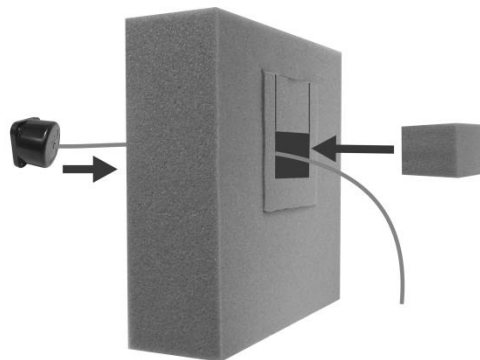

Figure 2. Placement of DM5 Microphone and foam in the foam enclosure
- Remove the small portion of the provided foam microphone enclosure, resulting in the two pieces of foam shown in Figure 2.
- Insert the DM5 Microphone cable through the hole in the foam enclosure, and place the microphone into the hole as shown in Figure 2.
- Insert the removed piece of foam back into the hole in the foam enclosure as shown in Figure 2, to fit snugly against the back of the microphone.